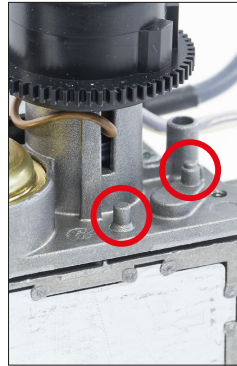
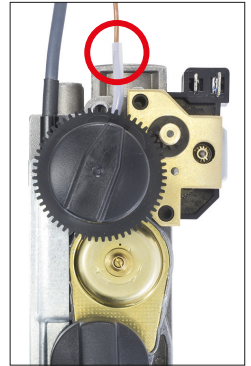
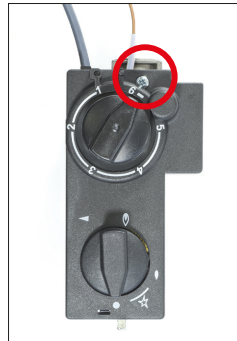
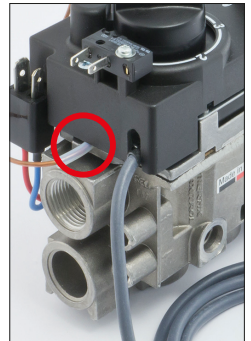

Figure 5
Figure 6
Figure 7
Figure 8
4. Place motor on the two locating pins (see figure 5). Make sure that the capillary is free from the gears and does not rub on bottom of the knob when rotated clockwise (see figure 6).
5. Position the end of the capillary tube as illustrated (see figure 6). Place the cover onto the valve and tighten the cover screw (see figure 7). The valve cover secures into position both the capillary and the motor (see figure 8).